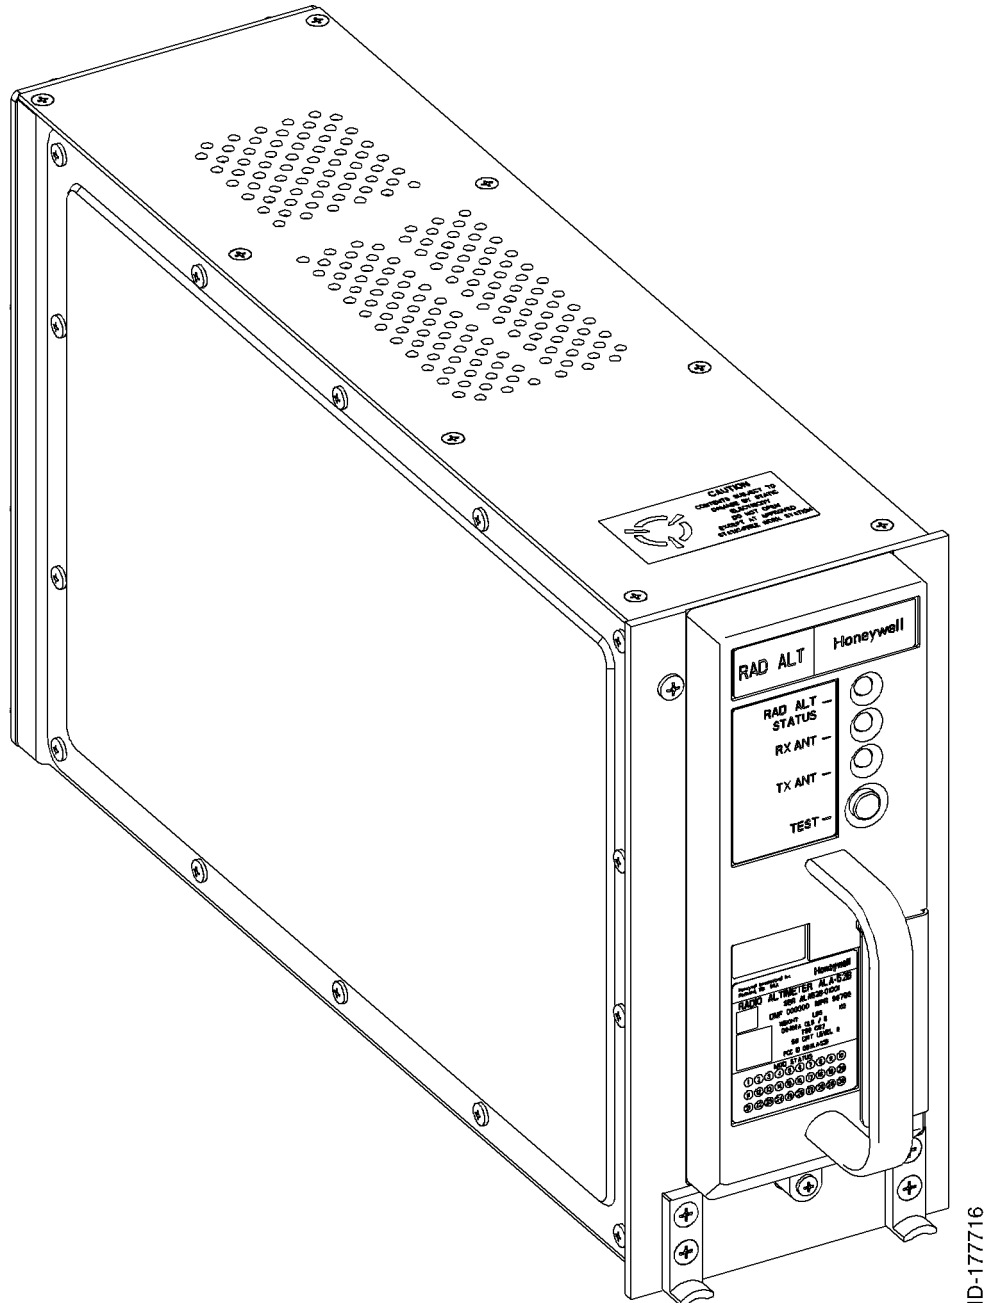

Figure 1. (Sheet 1 of 1) ALA-52B Radio Altimeter (GRAPHIC 34-42-37-99B-802-A01)
- (1) This section contains descriptive information covering the ALA-52B Radio Altimeter (ALA-52B). The ALA-52B is shown in Figure 1 (GRAPHIC 34-42-37-99B-802-A01).